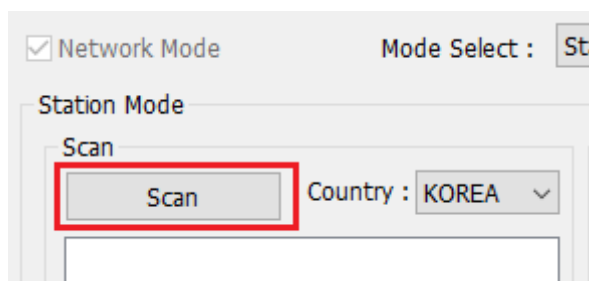

Figure 18: Station Mode - SCAN
2. Click the **Scan** button to scan APs. See Figure 18.